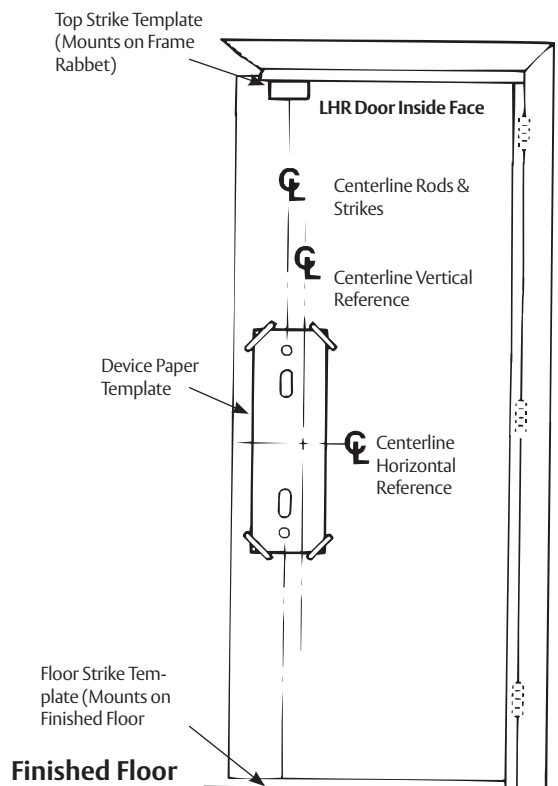

Figure 7
1. Locate device paper template aligning VERTICAL REFERENCE and HORIZONTAL REFERENCE lines on door and template. Tape template to door face. (Figure 7)
4. Tape templates in place and mark holes. (Figure 7)